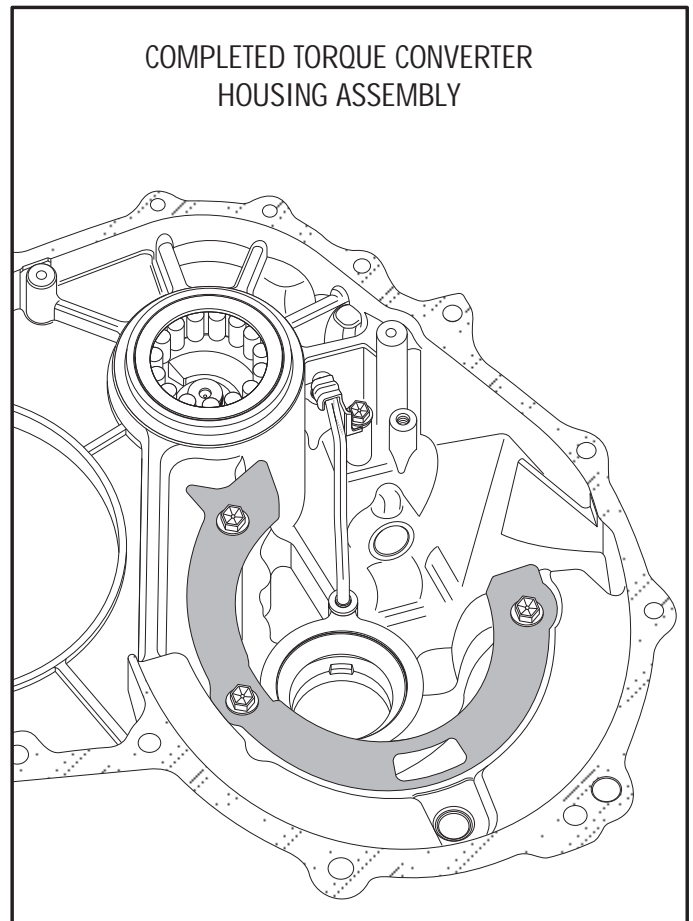

Figure 67
17. Set aside the completed torque converter housing shown in Figure 67 for final assembly.